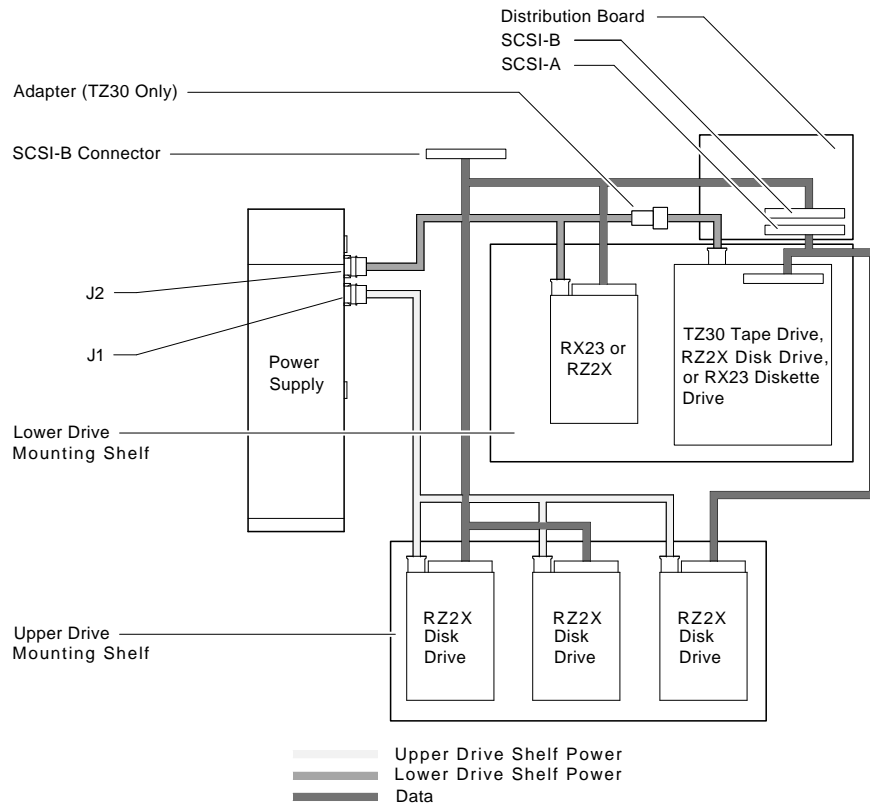

Figure 2-2 SCSI Bus Cable and DC Power Harness Plug
2. Disconnect the power harness plugs from connectors J1 and J2 of the H7822 power supply (Figure 2-2).